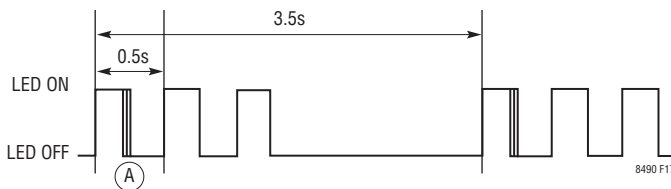

Figure 17. Example Waveform for STATUS Pin in STAGE 3
While the LT8490 is operating, the STATUS pin toggles on a 3.5 sec (typical) interval as shown in Figure 17. The three pulses shown in Figure 17 represent the charger operating in Stage 3. The STATUS and FAULT pins pull up to turn the LEDs on and drive to ground to turn the LEDs off.
The STATUS pin also provides a UART (transmit only) communication function. This feature allows for remote monitoring of the LT8490. Immediately after each initial pulse described in Table 6 the STATUS pin sends out a synchronizing byte (0x55) followed by a status byte. UART data is transmitted with the LSB first. Figure 20 shows the zoomed in region labeled (A) from Figure 17.